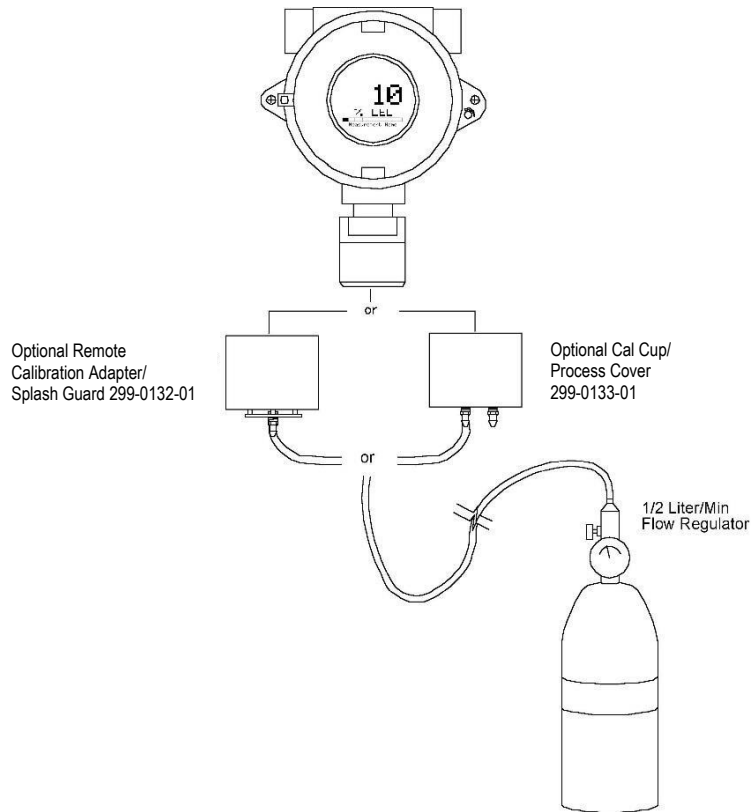

Figure 4-1 Calibration Gas Input
4. Apply a clean Zero Gas (Figure 4-1), using the Cal Cup, part number 299-0133-01, or be sure there is no background target gas in the monitored area. After the reading is stable (approximately one minute), swipe the EDIT key to Set the Zero Calibration. To skip the Zero calibration and go to the Span calibration swipe the NEXT key. When a message that the Zero calibration was completed successfully, proceed to the next step.
5. Apply the correct, as indicated, Span gas (Figure 4-1) at 0.5 liters/min. After the reading is stable (approximately one minute), swipe the EDIT key to Set the Span Calibration. To skip the Span Calibration swipe the NEXT key. When a message that the Span calibration was completed successfully, the SensFlex will exit back to the Data Display Screen.